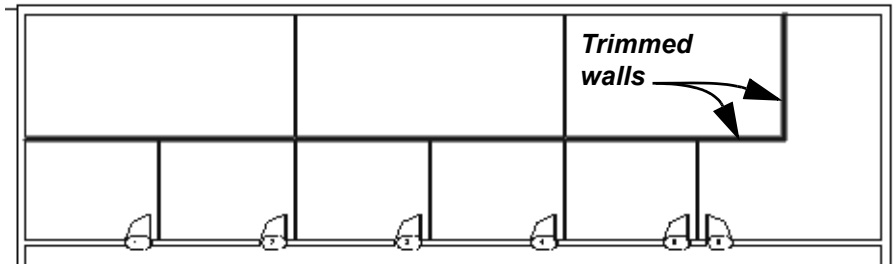

Figure 2–75
9. In the *Modify* tab>Modify panel click  (Trim/Extend to corner) and select the two walls to trim as shown in Figure 2–75.